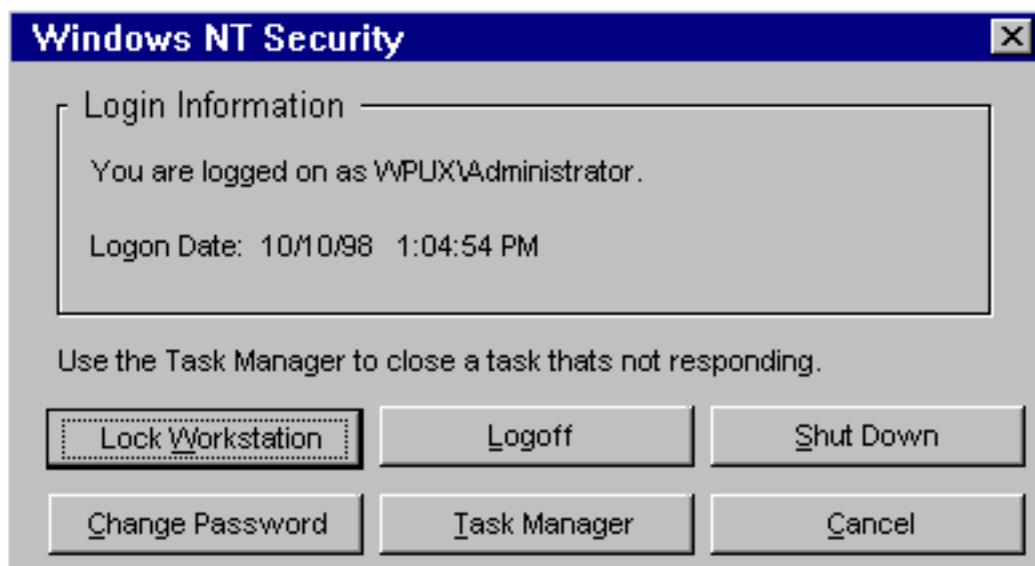

FIGURE 24. Windows NT Security Dialog Box
- 8.30 Press CTRL+ALT+DEL to display the Windows NT Security dialog box as shown in Figure 24.